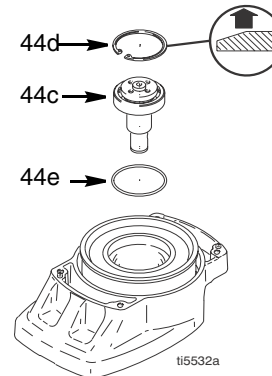

FIG. 6
7. FIG. 6. Remove retaining ring (44d).
- FIG. 6. Install o-ring (44e).